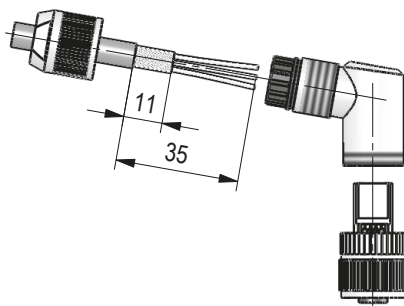

Fig. 16: Right angle mating connector M12 A coded
- Accessory SIKO art. no. "87599" M12 A coded (socket 8 pole interface digital inputs and outputs) (Fig. 16).
**Mounting (Fig. 16)**
## Changing the angle position (Fig. 16)